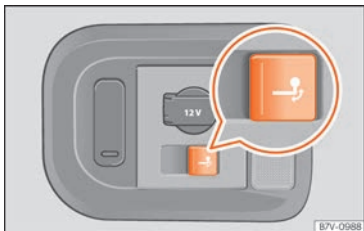

Fig. 279 On the right side of the luggage compartment: button for unlocking the tow hook.
- Pull the » » » Fig. 279 button briefly. The tow hook unlocks electrically and automatically turns outwards. The button's control lamp flashes.
- Pull the » » » Fig. 279 button briefly. The tow hook unlocks electrically.
- If the warning light on the button » » » Fig. 279 → flashes, this means that the tow hook has not been attached properly or is damaged » » » ⚠.
- If the warning lamp » » » Fig. 279 → remains on with the rear lid open, the tow hook is correctly in place both when extracted and when covered.
- Never press the » » » Fig. 279 button when there is a trailer hooked to the vehicle or when a carrier system or other accessories are mounted on the tow hook.